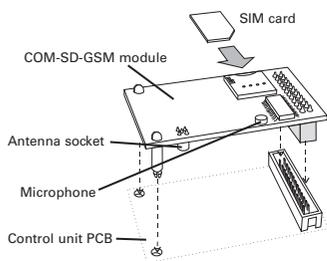

Figure 1: Installing the module
Connect the antenna to the socket on the PCB (Figure 1).
4. Fit a registered SIM card (Figure 1), with its PIN code disabled (if it has one).
5. Fit the module into the control unit (Figure 1). If you are using the adapter board, please refer to the adapter Installation Instructions.